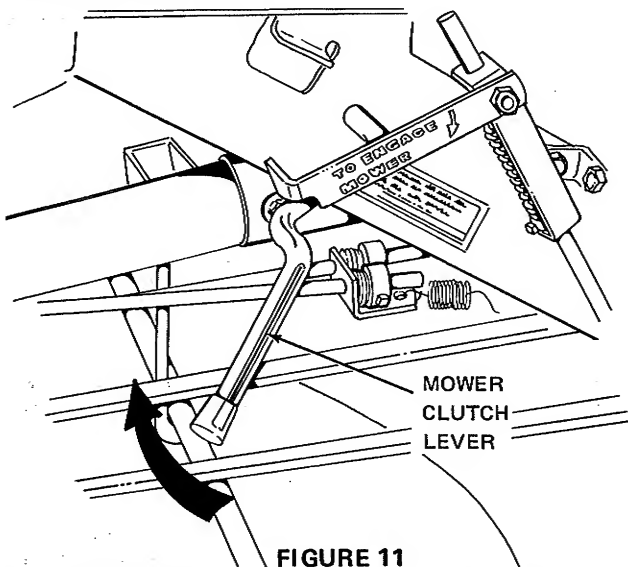

FIGURE 11
1. Engage the mower blade drive by pulling the clutch control lever **UP**. (Figure 11) The engine must be running at 3/4 to full throttle speed.
1. Rotate the blade by hand so that it is positioned with blade tips pointing to front and rear. Engage mower by pushing mower clutch lever up (Figure 11).